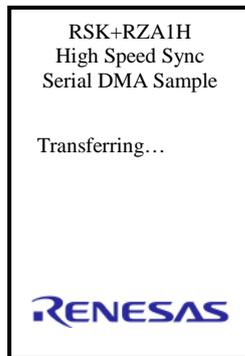

**Figure 5-3 Display after SW3 Press**
- IF SW3 was pressed, initialise RSPi4 in slave mode. The display should look like **Figure 5-3**.